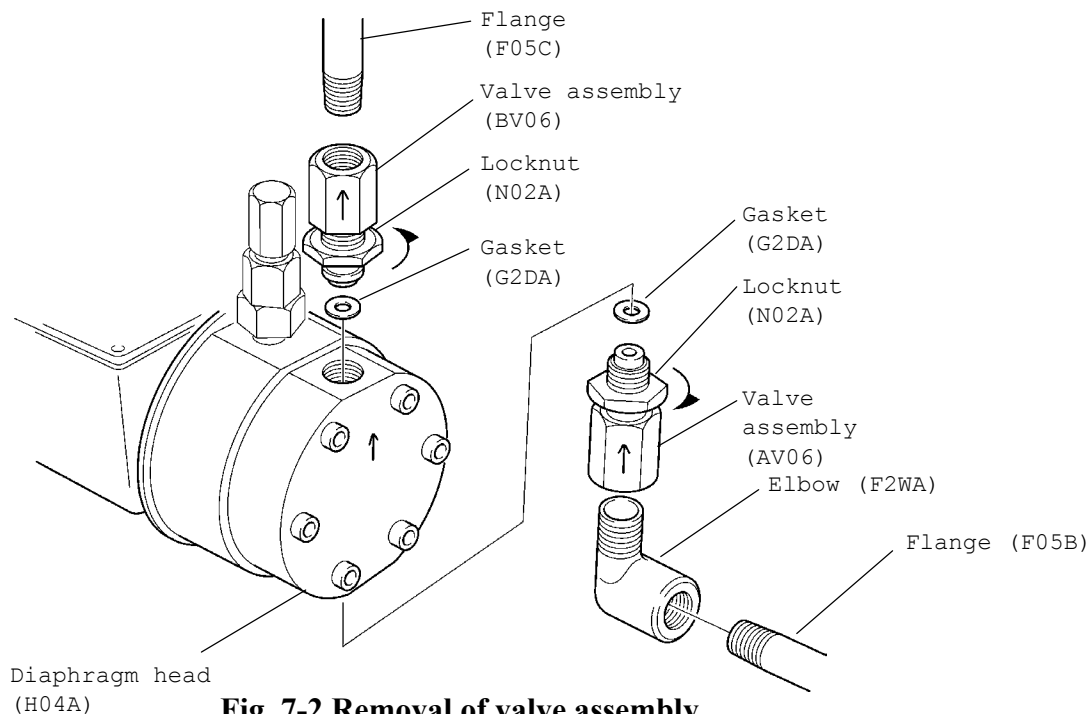

Fig. 7-2 Removal of valve assembly
- (2) When mounting the cartridge on the diaphragm head, confirm that the arrow marks, which are marked on both units, are aligned. Be sure to insert the gasket between the diaphragm head and the cartridge. Refer to Fig. 7-2.
- (3) After completion of the valve reassembly, be sure to tighten the lock nut. Refer to Fig. 7-2.